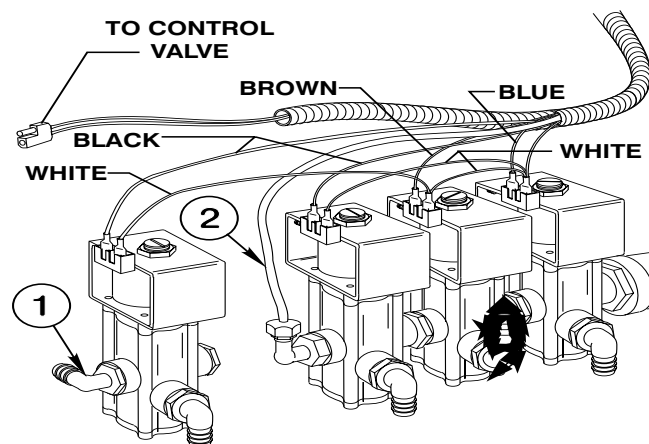
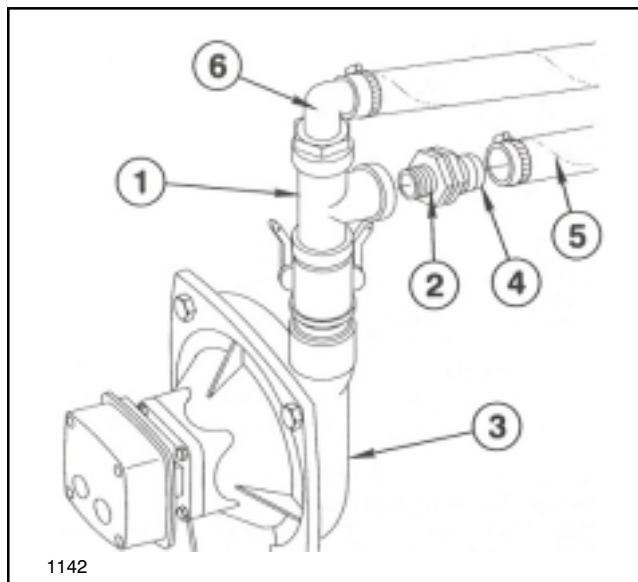

Figure 9
Figure 10
20. Apply thread sealer and install a 90° hose barb into the top of the Tee at the pump for Boom supply. Attach one end of the 1-1/4" x 52" Supply Hose to the 90° hose barb, and secure with a hose clamp. (See FIG. 10)
25. Install Gauge Tube into the 90° street elbow at through port of Solenoid Assembly and secure with Compression Adapter. (See FIG. 9)
27. Apply thread sealer and install Reducing Bushing into side of Tee on top of Pump. Install 1" MPT x 3/4" hose barb into Reducing Bushing, and attach one end of the Agitator Solenoid Feed Hose. (See FIG. 10) Secure with a hose clamp. Attach other end of hose to the 90° hose barb at the side of the Agitator Solenoid. (See FIG. 9) Secure with a hose clamp.